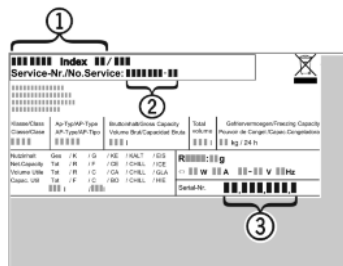

Fig. 13
- ▶ Read the appliance designation Fig. 13 (1), service No. Fig. 13 (2) and serial No. Fig. 13 (3) off the model plate located inside the appliance on the left-hand side.
- ▶ Notify the customer service, specifying the fault, appliance designation Fig. 13 (1), service No. Fig. 13 (2) and serial No. Fig. 13 (3).